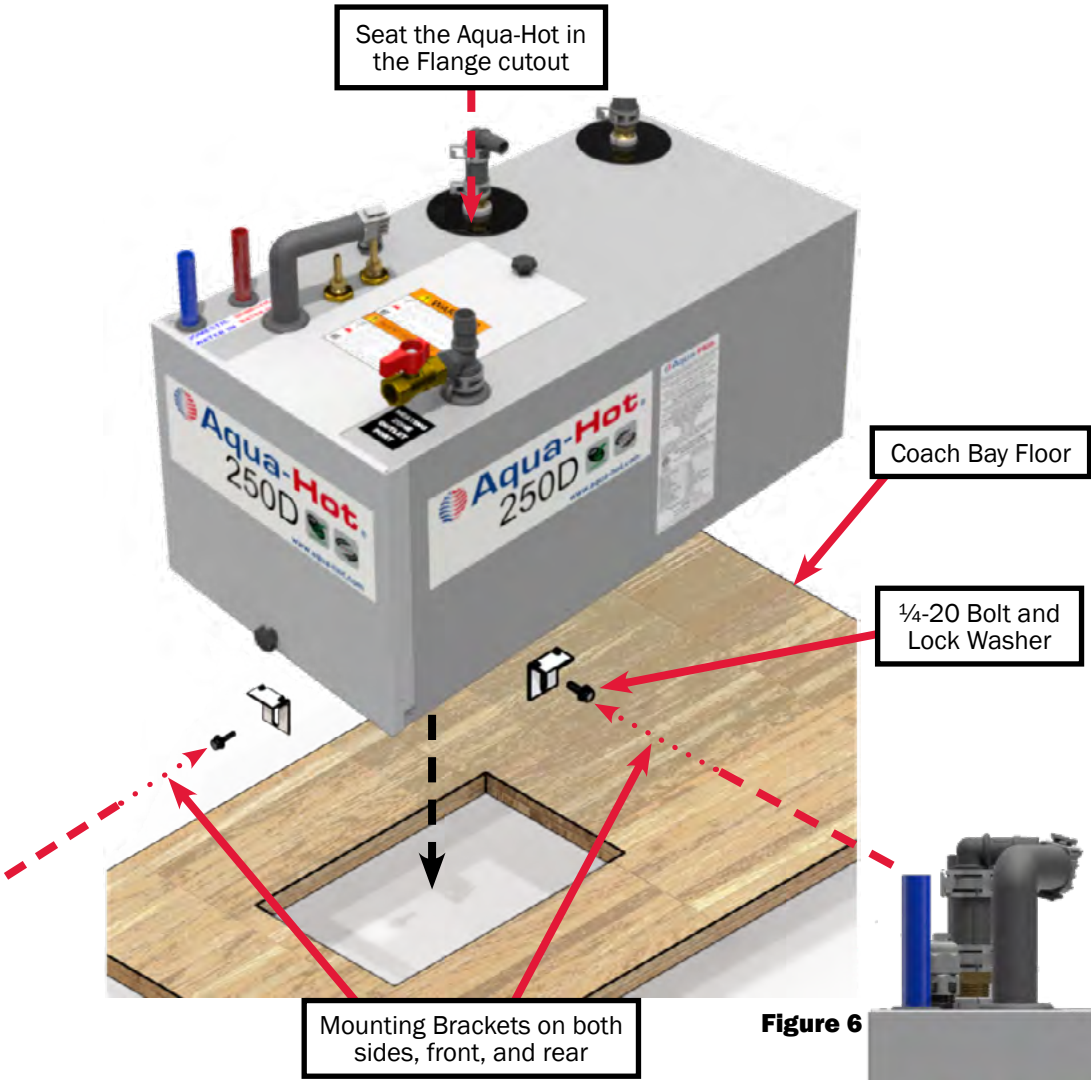

Figure 6
3. Install the flange located on the bottom of the Aqua-Hot into the cutout opening. Reference Figure 6 & 7.